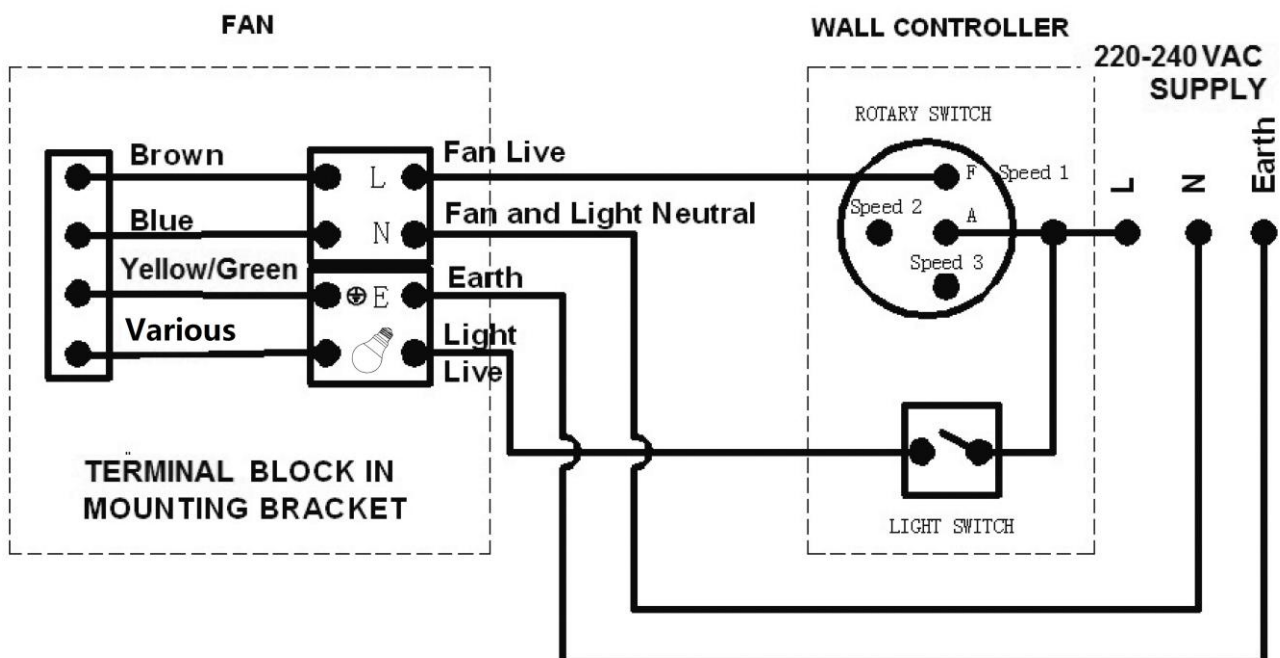

Fig.8 Wiring diagram
8. Refer to the wiring diagram provided for Electrical Connection/installation. Fig. 8 & 9